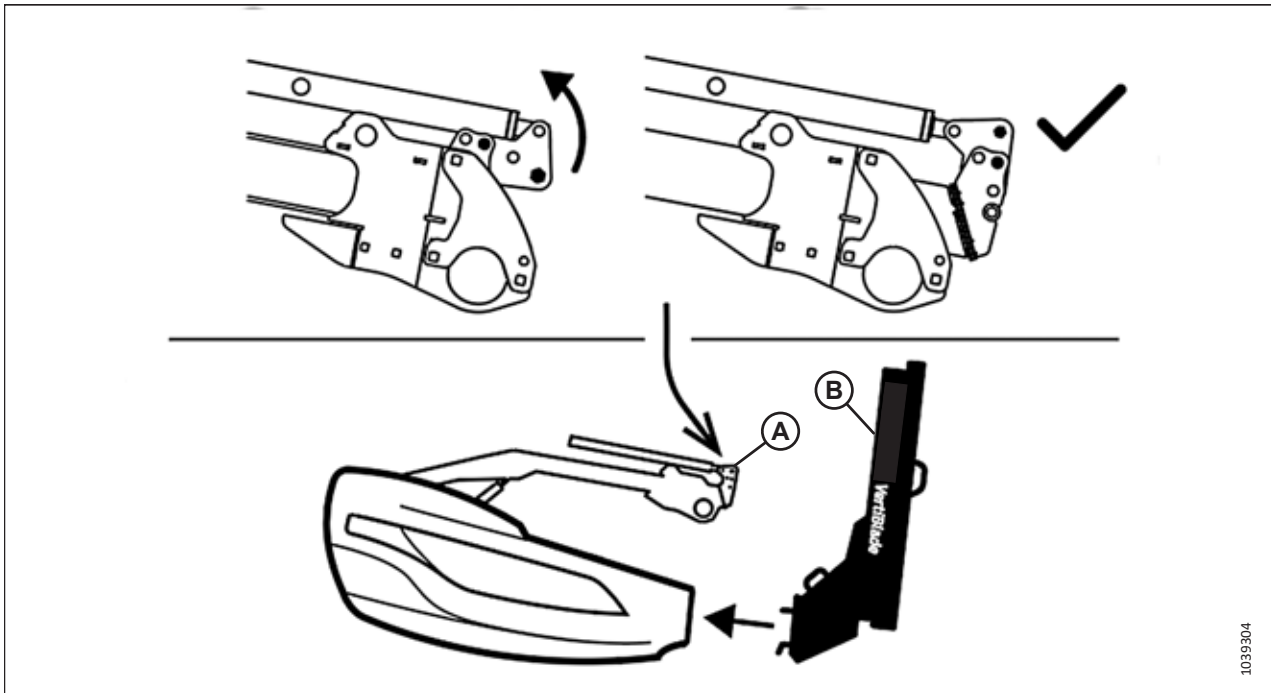

Figure 4.360: Reel Fore/Aft Cylinder Position for Vertical Knives
To prevent contact between reel arm components (A) and vertical knife assemblies (B), retract the reel's fore-aft cylinders as shown in Figure 4.360, page 454 before installing the vertical knives. For instructions, refer to Repositioning Fore-Aft Cylinders, page 153.